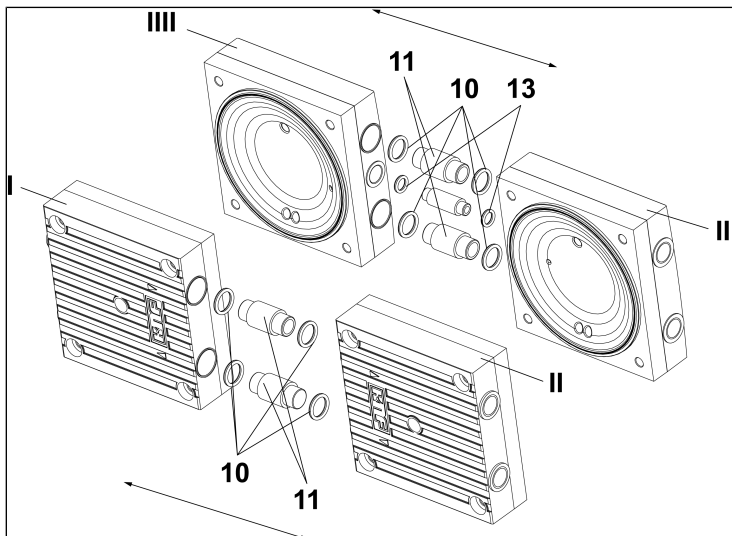

Fig.12: Removal of the O-rings, the connection pipes and the plug
8. Pull heads 1 (I/ Fig. 12) and 2 (II/ Fig. 12) apart and remove the O-rings (10/ Fig. 12) und (13/ Fig. 12).
7. Place the O-rings (10/Fig. 12) and (13/Fig. 12) on the connection.
8. Press heads 1 and 2 (I and II/Fig. 12) together.